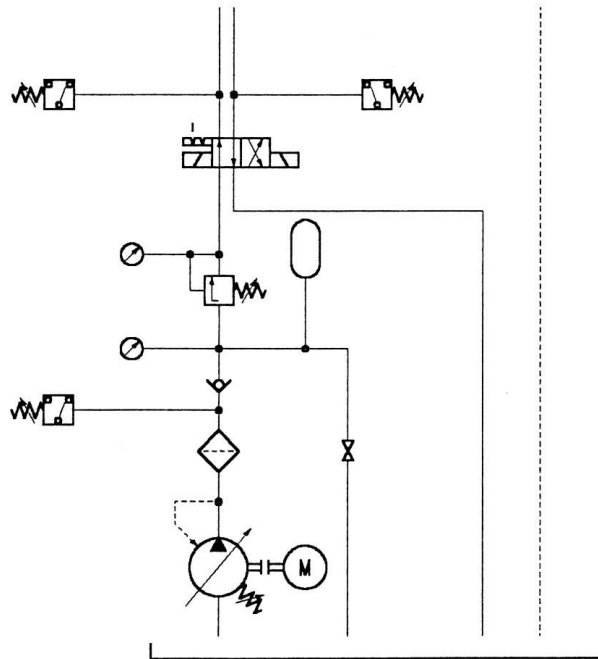

Fig. 5
8.4. The installation scheme of a properly designed unit for supplying of hydraulic cylinders, which guarantees correct operation of the cylinder at one pressure value is shown on the Fig. 5.